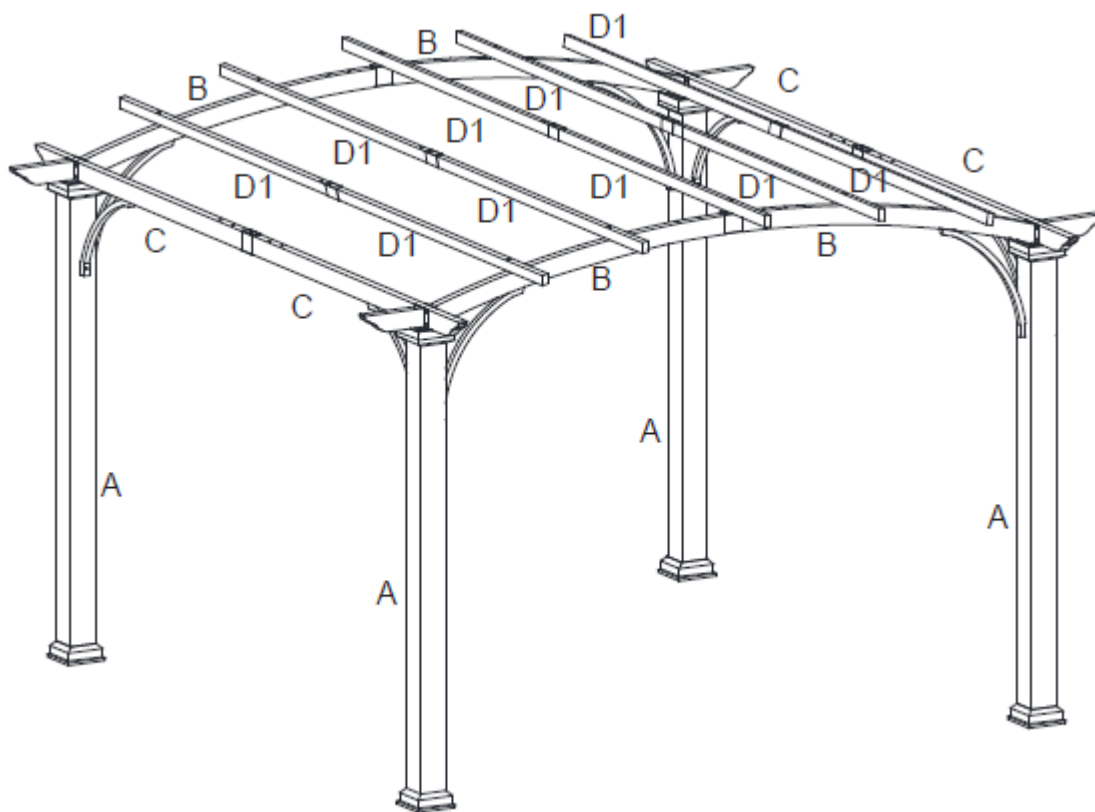

Figure 7-2
Step 7B: Repeat for all Inside Lintels (D1). See Figure 7-2.